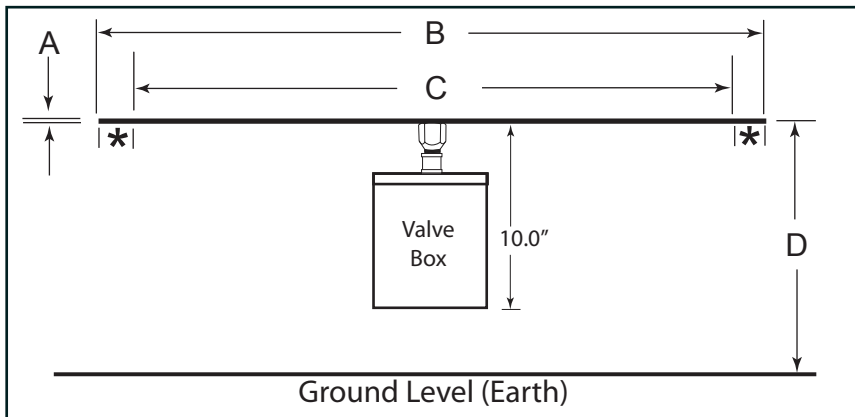

Figure 1. Flat Disc Dimensions; refer to Table 1.
**NOTE:** Do not place fire pit directly on grass, dirt, or rocks as this may prevent proper ventilation (Fig.1, pg. 3). **Ensure proper water drainage is also incorporated into the fire pit enclosure.**